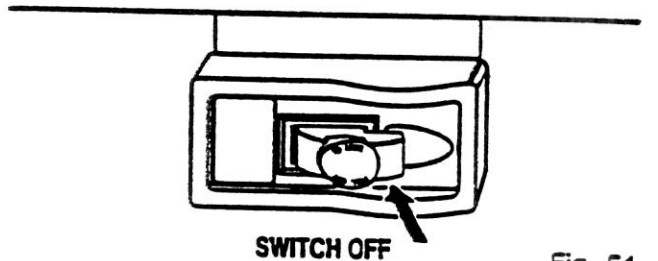

Fig. 51
- When work is completed, press switch off and remove switch key. See Figure 51